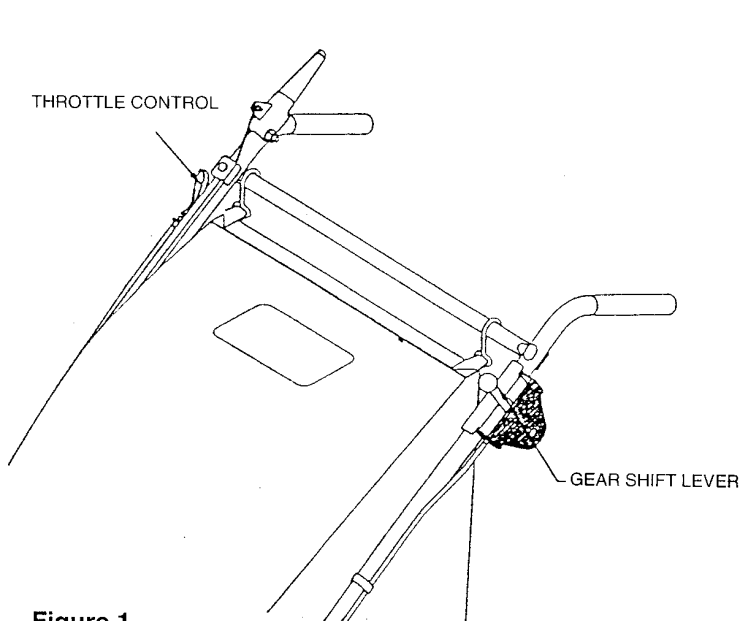

Figure 1
□ Operate the machine in a large, level, open area until you are familiar with its operation. Begin with speed No. 1 and gradually work up to speed No. 4. (Figure 1)
This equipment incorporates two safety interlock systems. Figure 1 below is for the front Vacuum Housing Assembly. Figure 2 is for the Cloth Bag Assembly. Both interlocks must be engaged for engine to start.